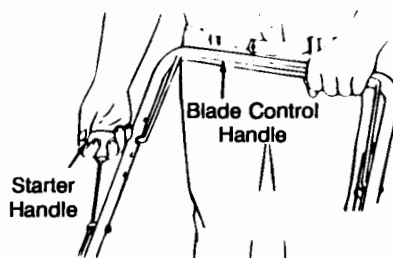

Figure 17
- Standing behind the unit, depress the blade control handle and hold it against the upper handle as shown in Figure 17.